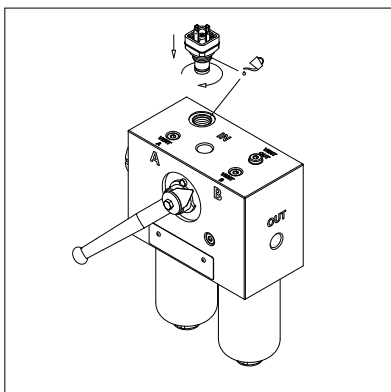

fig. 21
- (Fig. 21) Lubricate with the operating fluid the thread and the O-ring of the indicator body, then screw the indicator body in referring to the tightening torque table in paragraph 3